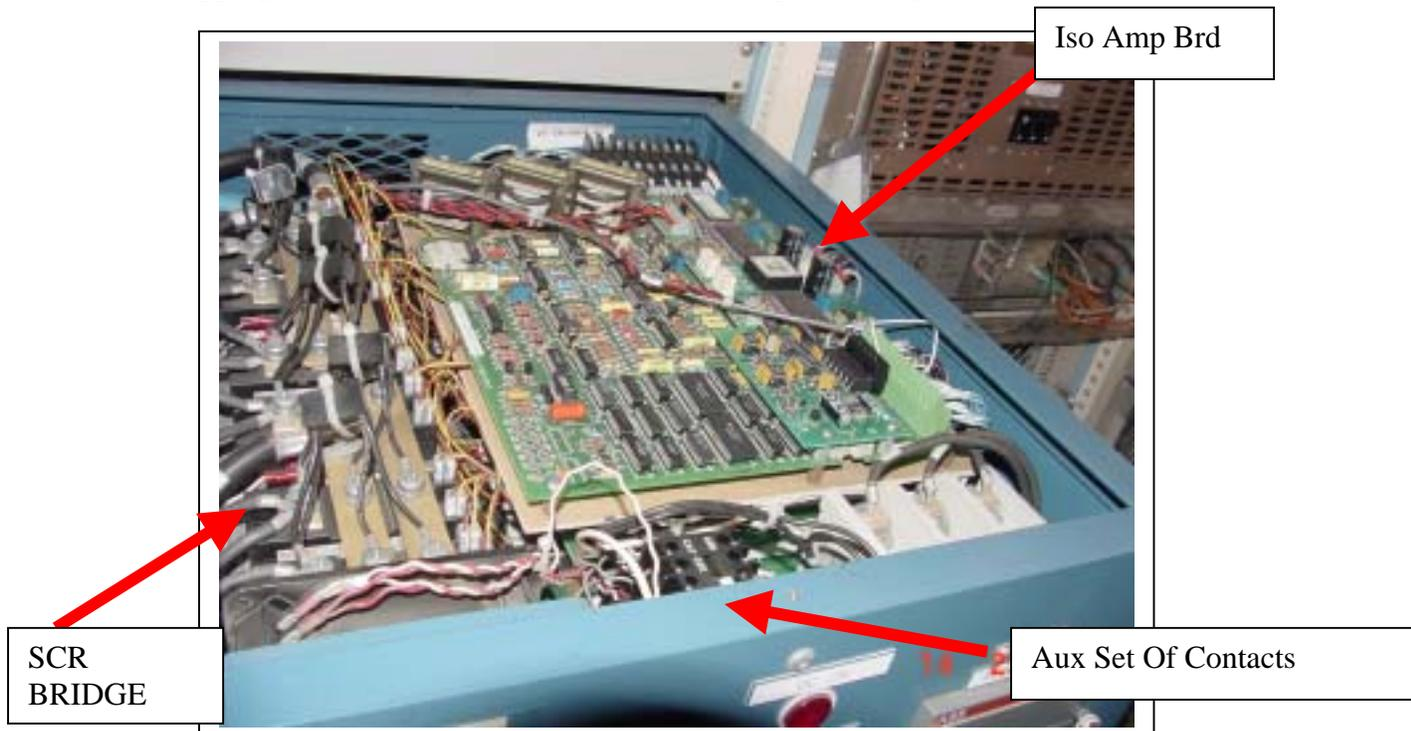

Figure 1
6. If you are working on a 200A p.s. the SCR bridge is on the top left had side of the p.s. and the isolation amplifier board is on the right hand side. You will be swapping out the aux contacts in the front of the p.s. See Figure 1 below:
7. In this 200A p.s., in Figure 1, you must stay at least 6 inches away from the SCR bridge and the isolation amplifier board when swapping out the auxiliary set of contacts. If you feel you cannot then you must lockout the blue or yellow or both main quadrupole p.s.'s. To do this for a blue p.s. , follow this procedure: <http://www.rhichome.bnl.gov/AGS/Accel/SND/DerivProcs/CPS/CPS005.PDF> and follow this procedure for a yellow p.s. <http://www.rhichome.bnl.gov/AGS/Accel/SND/DerivProcs/CPS/CPS006.PDF>
13. If this is a 300A or 450A p.s. make sure you stay at least 6 inches away from the isolation amplifier board when replacing this set of auxiliary contacts. If you cannot stay at least 6 inches away then lock out the main p.s.'s in 1004B. In the 200A p.s. you must ALSO stay away from the SCR bridge (see Figure 1).